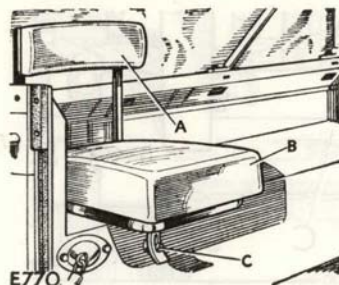

Fig. 121 Operator's seat
341. Two operators' seats are provided (Fig. 121). These are light-weight, quickly detachable seats which rest upon the wheel arches of the vehicle and have hooks on their backs to locate on the sides of the body.
The seats are secured, particularly for cross-country work, by means of a strap fitted to the underside of the seat which locates on a stud (Fig. 121 (C)) fitted to the side of each wheel arch.